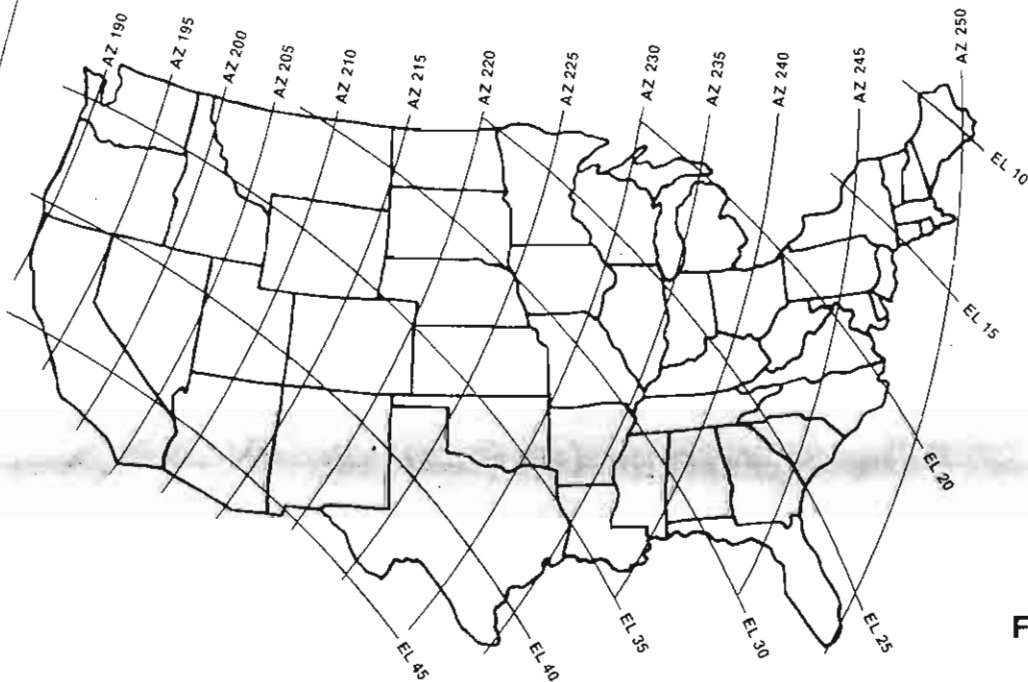

FIGURE 13
**NOTE:** Elevation angles are given for Satcom F3 in Figure 13. Try to estimate angle to nearest degree. Exact Print-outs of elevation angles of all satellite for your area are available on request from the Winegard Company.
**STEP 5.** Crank the Polar Jack (9) to swing antenna thru arc. Satcom F3 will be found at the azimuth heading indicated in Figure 13. Work carefully.